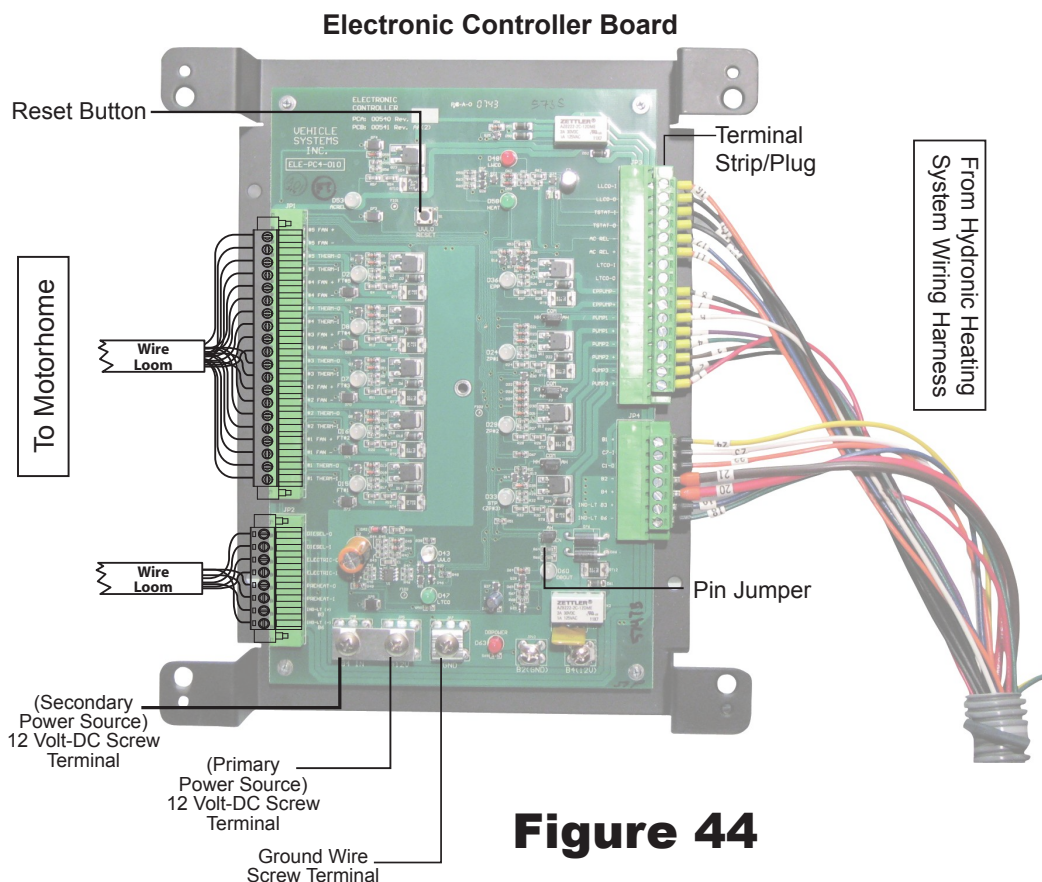

Figure 44
Each heating zone “FAN” circuit can supply up to 2.0 Amps of direct current. This 12 Volt-DC power source allows for multiple Cozy III heat exchangers to be wired “in-parallel”. Reference Figure 44 and Appendix A.
All switch connections are to be wired directly to the Aqua-Hot’s interior switch panel. Reference Figures 44 and 44 and Appendix A. Both the “IND-LT (+) B3” and the “IND-LT (-) B6” connections on the electronic controller are reserved electrically **ONLY** for the diesel-burner switch indicator light connections.
1. Attach wiring harness connectors to the electronic controller. Reference Figures 44 and 45 and Appendix A.